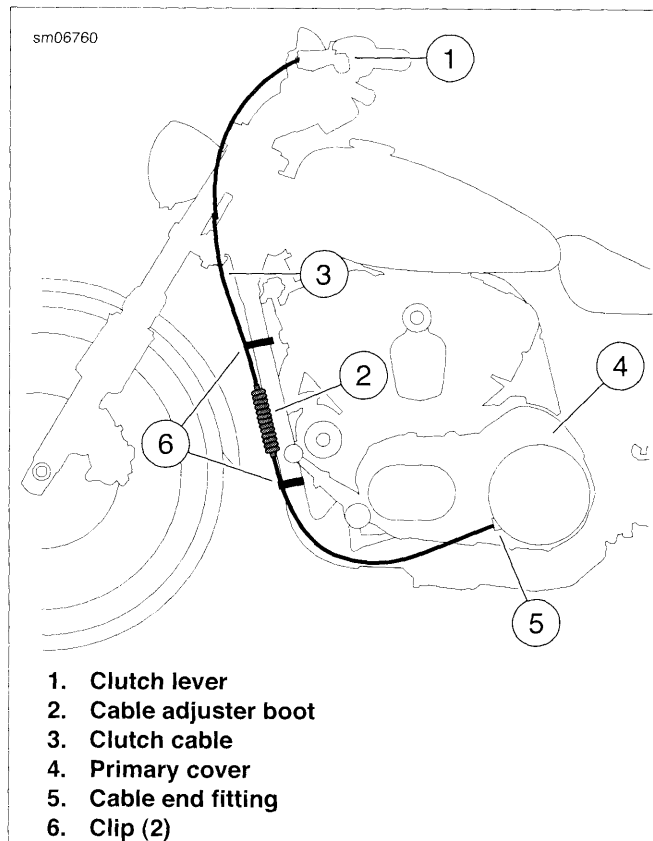

Figure 2-215. Clutch Cable Routing: XL Models
1. **XL Models:** See Figure 2-215. Route clutch cable (3) forward from clutch lever (1) downward to outboard side of left front fork slider tube, through two clips (6) on left front frame downtube, and rearward to primary cover (4).